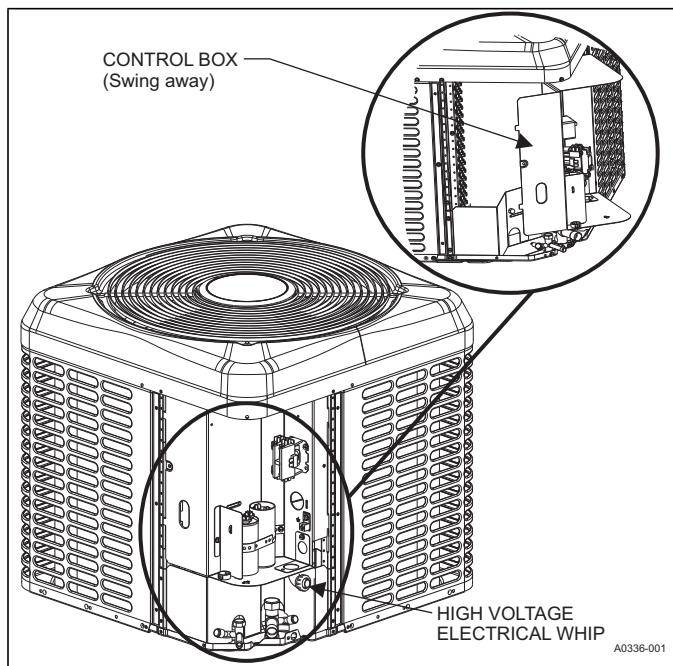

FIGURE 11: Outdoor Unit Swing Away Control Box
The control box can then swing open from the left by rotating on the right side pivots for easy service of refrigeration components. If no wiring is in or routed through the control box, it can be removed from the unit by lifting slightly, tilting the top hinge out, and lifting the bottom hinge out. During the installation, it is recommended to route the low voltage wiring for the thermostat along the unit whip to help facilitate the swing away feature of the control box. Refer to Figure 11.
4. Route wires from disconnect through power wiring exit provided and into the unit control box as shown in Figures 11, 12 & 13.